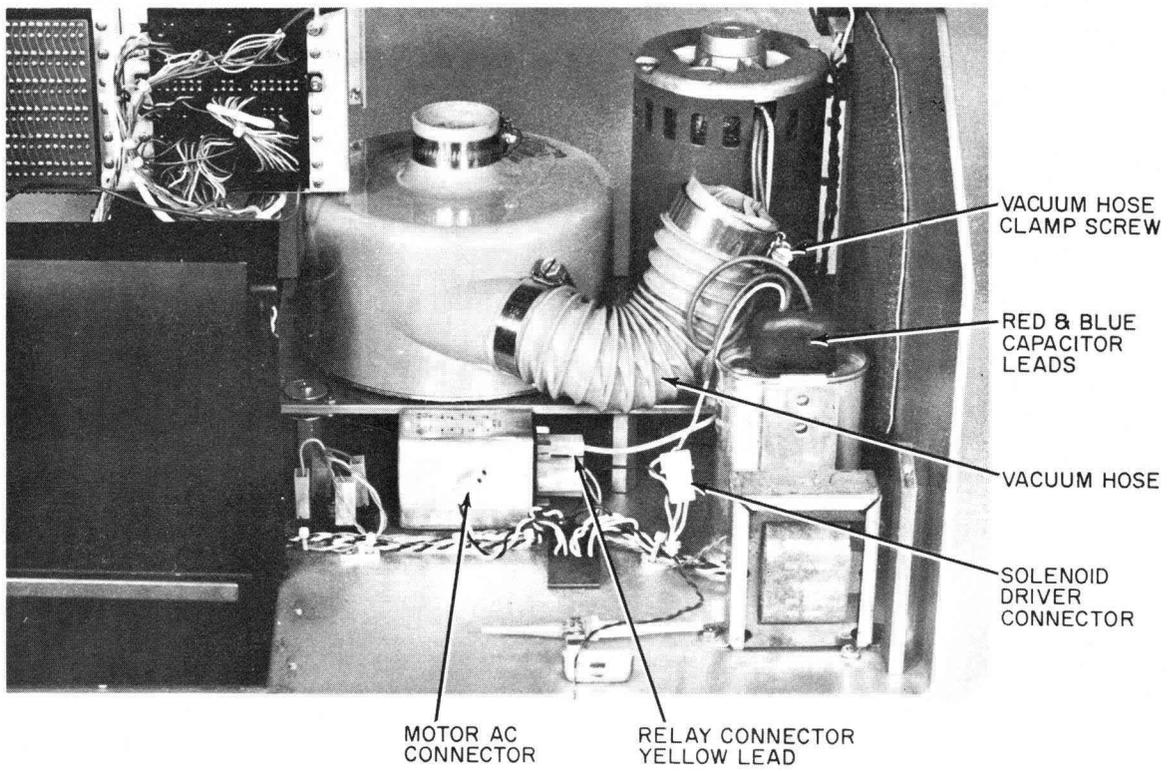

Figure 27. Front View, Main Wiring Connections
3. Disconnect motor AC connector - located off cable on mainframe, figure 27.
4. Disconnect solenoid driver connector, figure 27.
5. Disconnect yellow lead from relay, figure 27.
6. Lift rubber protective cover from capacitor and remove red and blue leads from capacitor, figure 27.
8. LOOSEN vacuum hose clamp screw and remove hose from main mounting plate, figure 27.